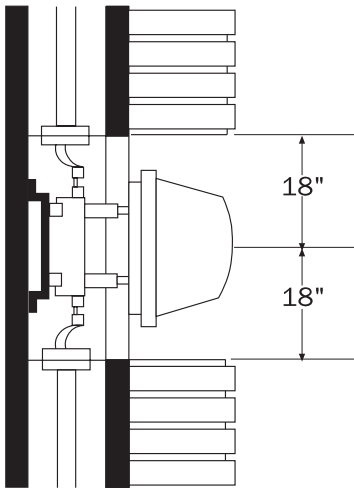

Figure 23.
- A working space of 36 inches wide by 42 inches deep is required around the meter see Figure 23). This working space is to be kept clear of any obstructions including landscaping.